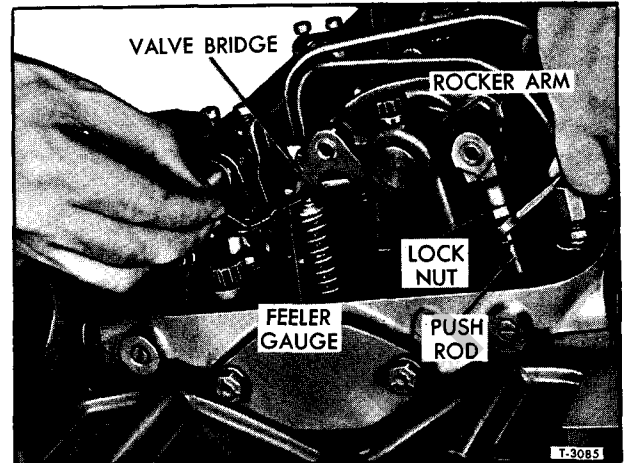

Figure 1—Exhaust Valve Clearance Adjustment
If the rocker arm bracket bolts, or cylinder head bolts are disturbed for any reason, the exhaust valve clearance should be adjusted to 0.026" (cold) before starting the engine (fig. 1).
4. Loosen the push rod lock nut on the valve push rod (fig. 1), and placing a 0.025" feeler gauge tool (J-9708) between one valve stem and one end of the rocker arm bridge, adjust the push rod to obtain a smooth "pull" on the feeler gauge.